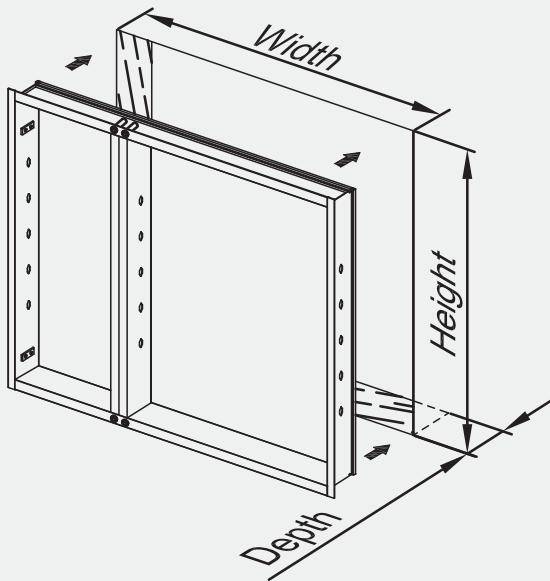
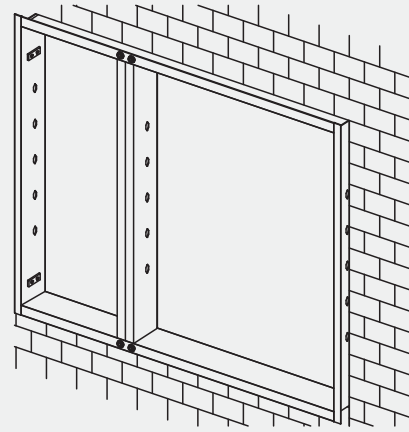

Fig 3
Fig 4
2. Make sure the hinges are on the correct side of the opening for left-hand or right-hand operation. Place the cabinet box into the rough opening. For fully recessed installations, ensure that the cabinet flange covers the rough opening evenly all around (Fig 3). For semi-recessed applications, the mirror edges should align with the wall surface (Fig 4). Use shims as needed.